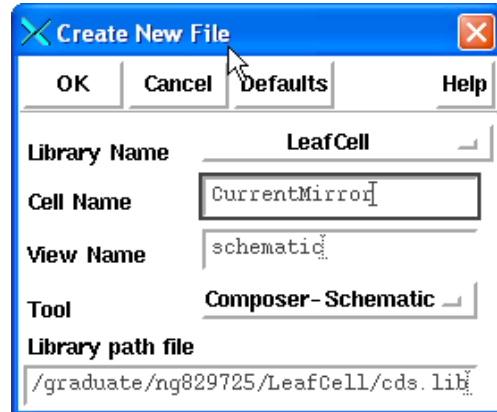

Figure 18: Creating a new schematic view
2. Fill out the form exactly according to Figure 18.